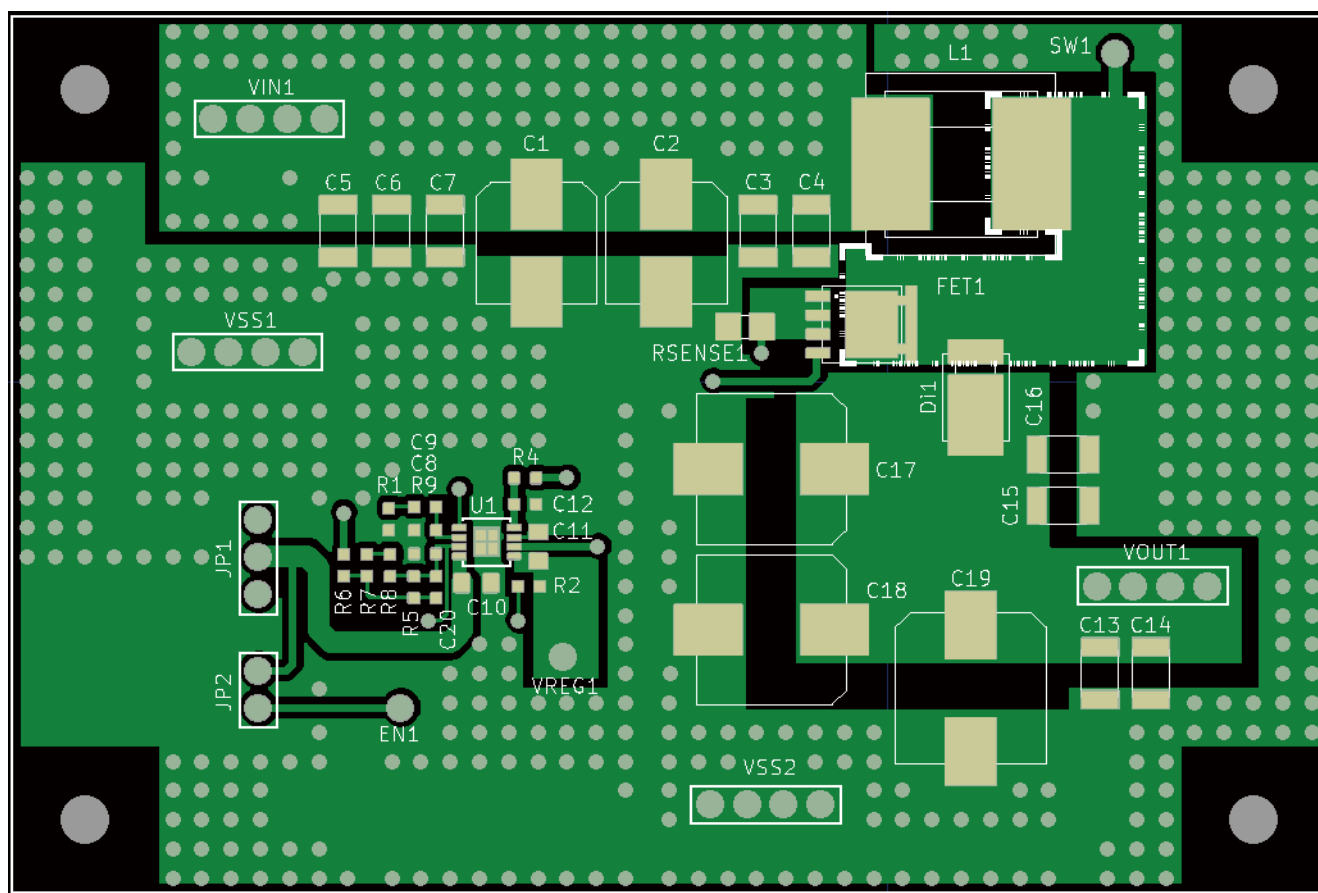

Figure 15 Reference Board Pattern
- The switching node (SW1) wiring area (Dashed line area in "Figure 15 Reference Board Pattern") should be as small as possible to reduce high-frequency radiation noise.